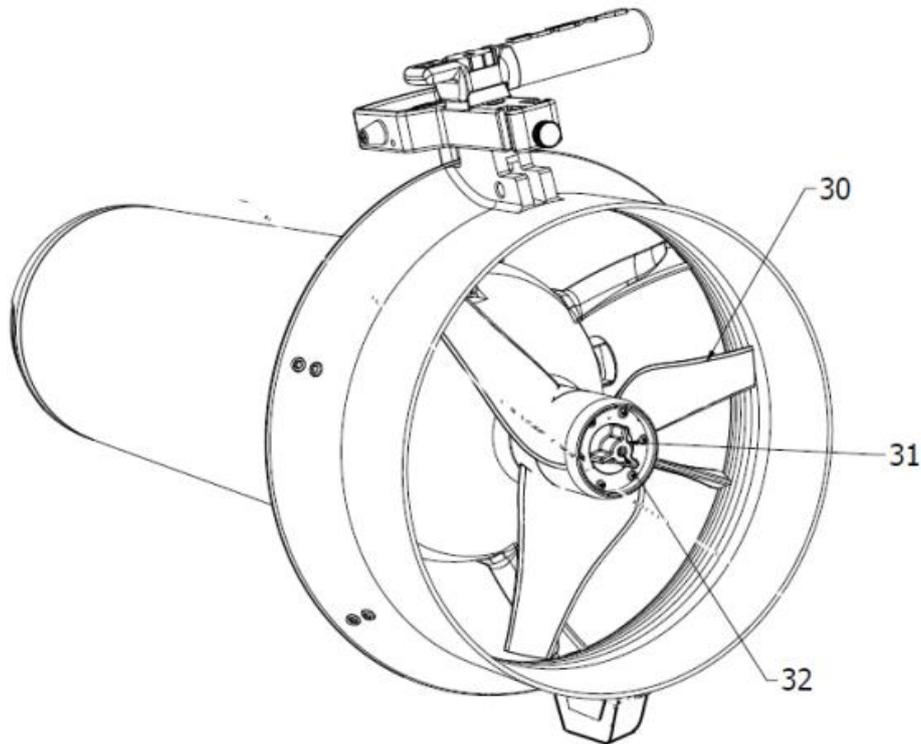

Fig.9
Grasp the propeller by a blade (30 - Fig. 9) and unscrew the knob (31), turning anticlockwise until the propeller is completely extracted.